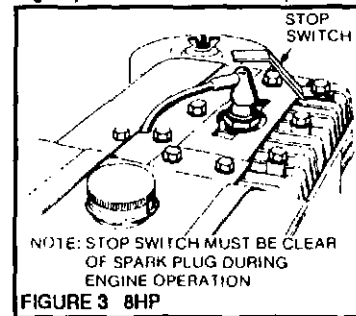
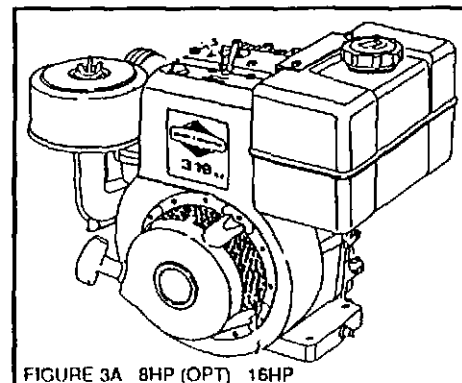
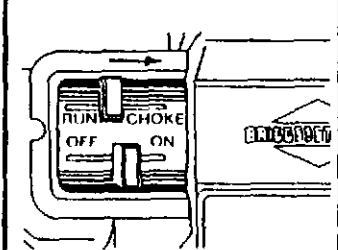

FIGURE 3 8HP
FIGURE 3A 8HP (OPT) 16HP
FIGURE 4A
3. Be sure stop switch is away from spark plug (Fig. 3) or slide lever/switch is moved to on position (Fig. 3A and Fig. 4A).
Gradually remove all the load from the generator, to stop the engine, push the stop switch against the end of the spark plug until the engine comes to a complete stop (Fig. 3A or 4A) or turn the key to off.